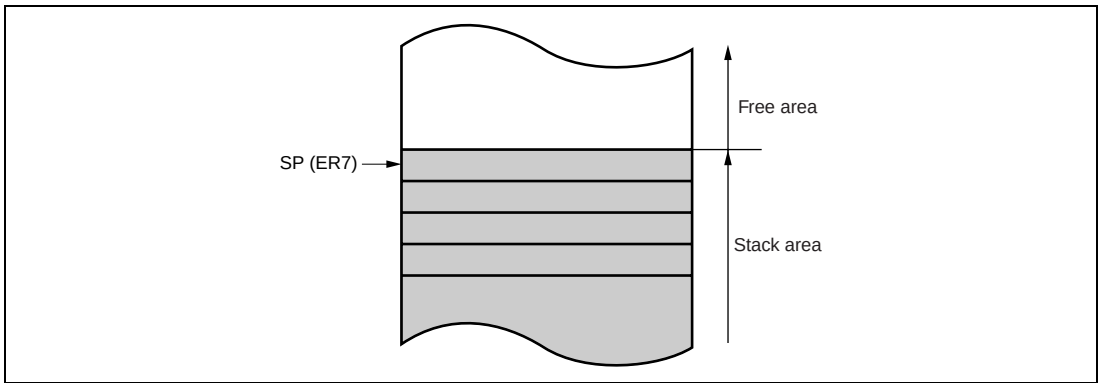

Figure 2-4 Relationship between Stack Pointer and Stack Area
General register ER7 has the function of stack pointer (SP) in addition to its general-register function, and is used implicitly in exception handling and subroutine calls. Figure 2-4 shows the stack.